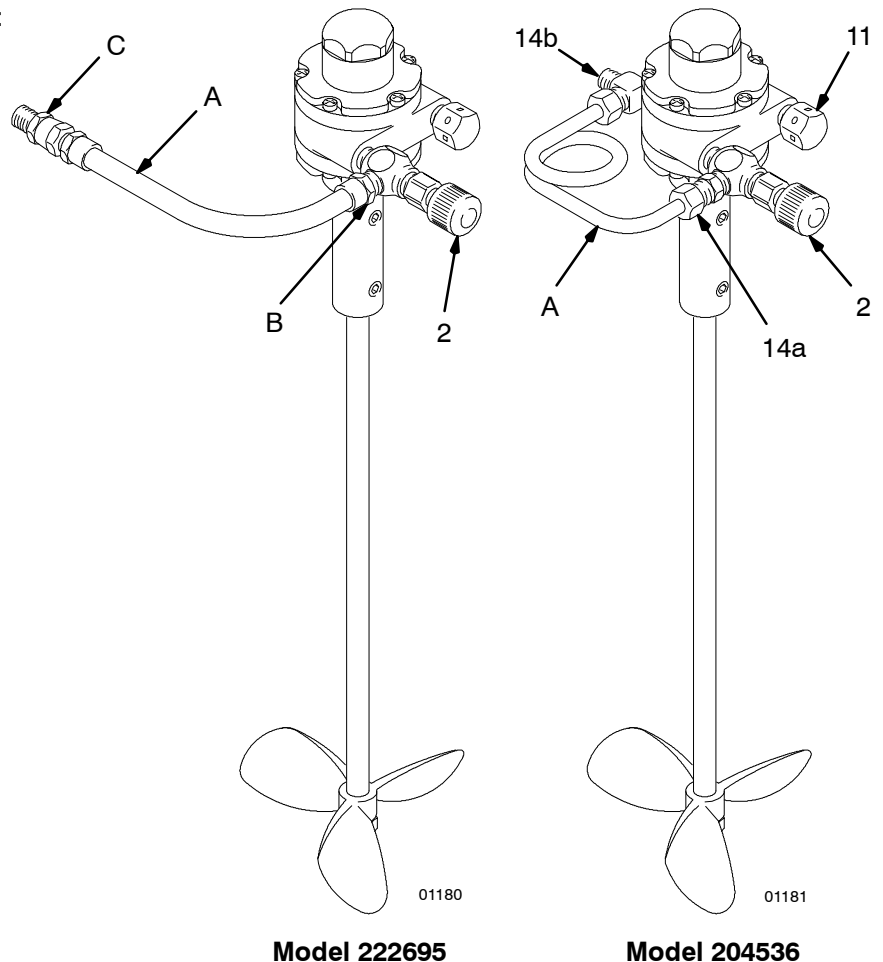

Fig. 2
1. Remove the nut (5), lockwasher (4), blade (10), and pin (6) from the shaft (12 or 13). See the **Parts Drawing** on page 8.
3. Position the air motor so the air line (A) can be attached easily and will not obstruct any other system components. See Fig. 2.
5. Install the pin (7), blade (12), lockwasher (5), and nut (6) onto the agitator shaft (11). See the **Parts Drawing**.
Screw the straight tube fitting (14a) into the needle valve's (2) 1/8 npt inlet. See Fig. 2. Screw the elbow fitting (14b) into the 1/8 npt air supply manifold outlet.
Screw the air hose coupling (B) into the needle valve's (2) 1/8 npt inlet. See Fig. 2. Screw the air hose swivel stud (C) into the 1/8 npt air supply manifold outlet.
Attach the air line between the needle valve's (2) 1/8 npt inlet and the 1/8 npt air supply manifold outlet. Refer to Fig. 2.